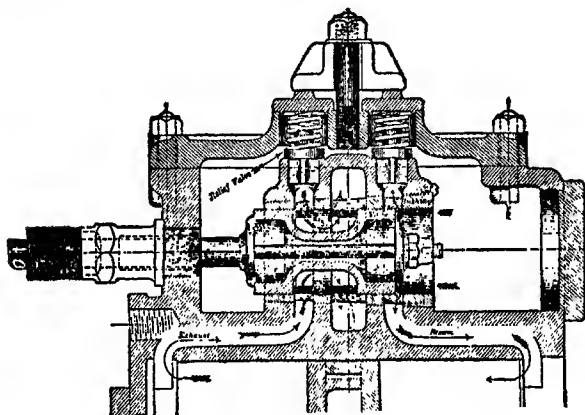

FIG. 69.—PLAIN PISTON VALVE.
**The Plain Piston Valve.**—This valve, which is a direct one (Fig. 69), differs from the double-ported one which was shown in the previous illustration in that the steam is only admitted past the outside edge and is not allowed to pass through the valve. In all other respects the two valves are identical. The lead may be easily seen and regulated in a double-ported piston valve by removing the steam chest cover over A, while to adjust the lead on a plain piston valve the plates on the *end* of the steam chest must be removed. In the former type of valve the lead is adjusted from the *inside edge of the valve* while the adjustment of the latter is from the *outside edge of the valve*.